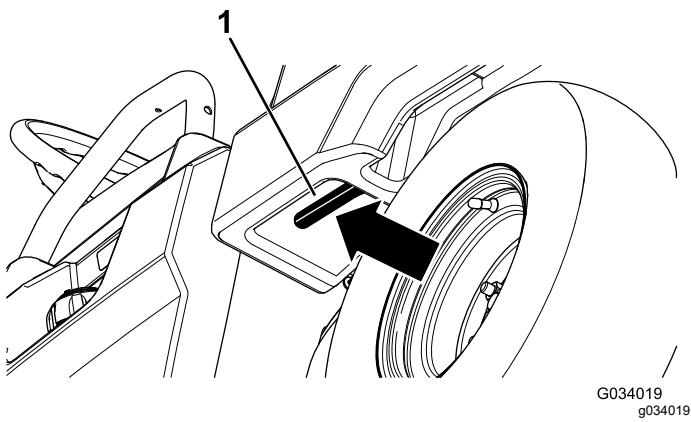

Figure 11
1. Pull the lever on left, inside of the cargo bed toward you and lift the cargo bed up (Figure 11).
1. Raise the cargo bed slightly by lifting up on the latch lever (Figure 11).